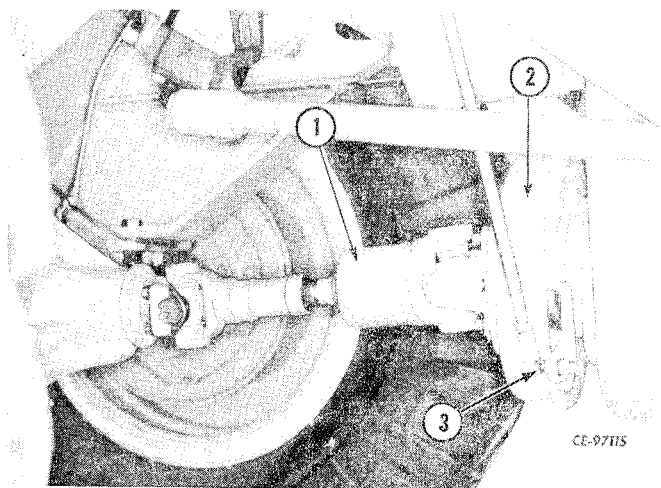

Figure 4-12
Disconnect linkage (3, Fig. 4-12) from parking brake (2).
Remove lower front drive shaft (1, Fig. 4-12) at transmission.